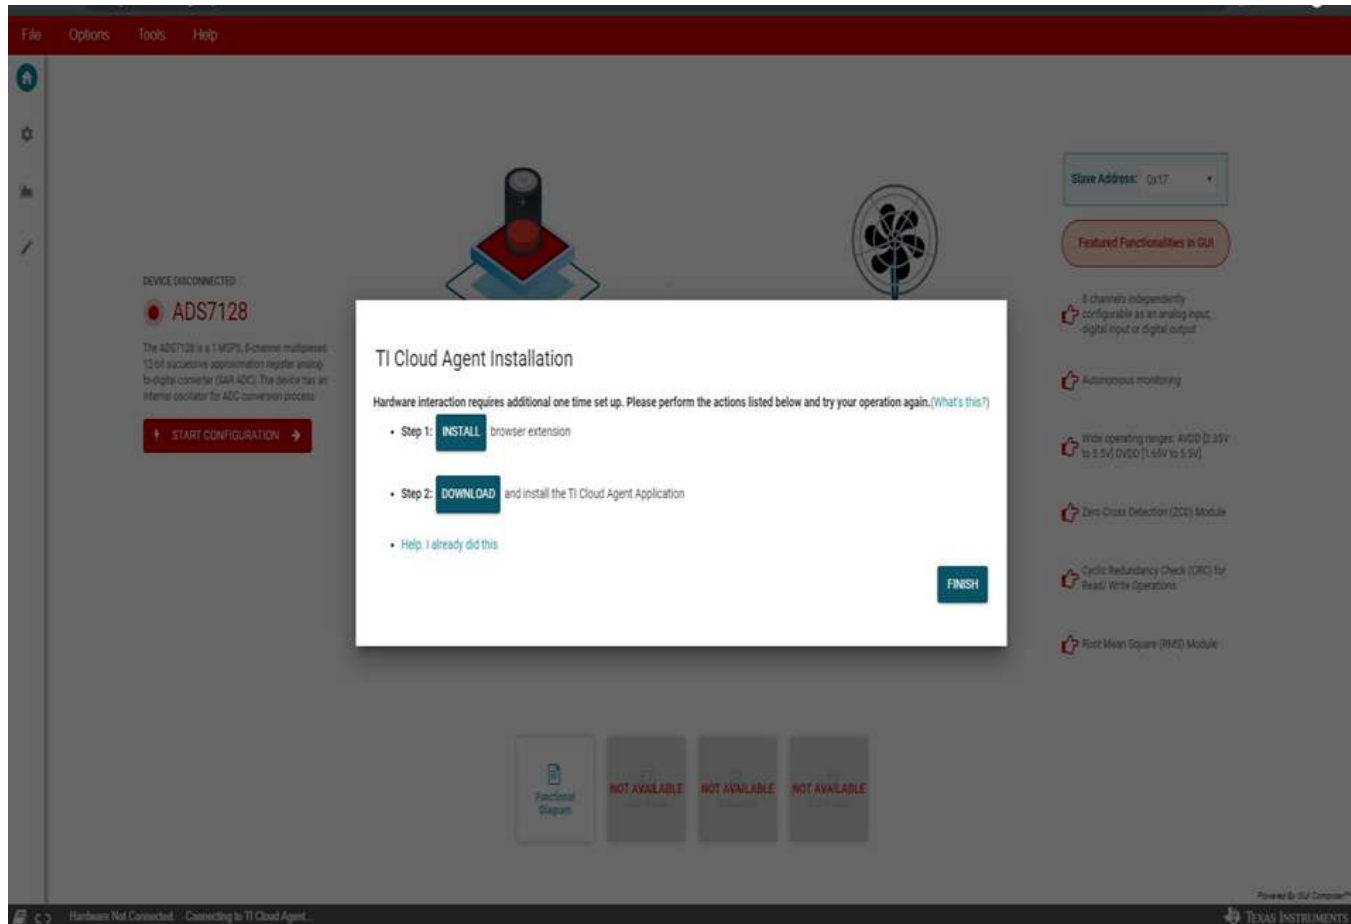

Figure 3. Browser Extension and TI Cloud Agent Installation
2. Click on the BP-ADS7128 GUI icon. As shown in Figure 3, first-time users may be prompted to download and install the browser extension for Firefox™ or Chrome™ and the TI Cloud Agent Application.